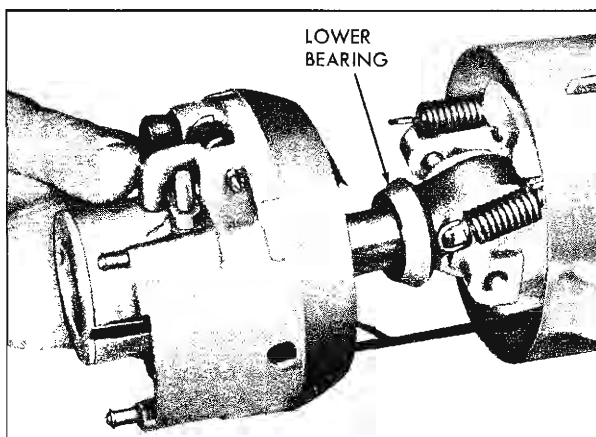

Fig. 34—Installing Actuator
8. Install the lower bearing on the upper shaft (fig. 34).
11. Install the tilt lever and, holding the lever back to prevent lock shoes from engaging the locking pins, install actuator carefully over shaft, then release lever (fig. 34).